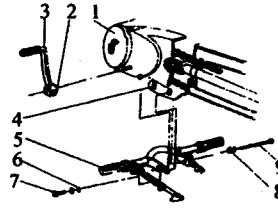
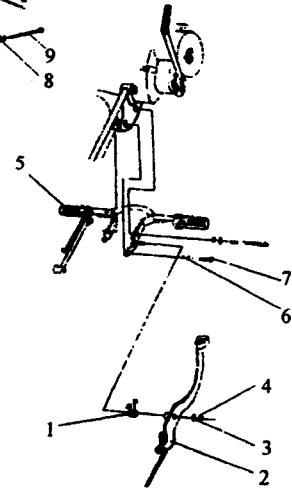

Fig. 3
Fig. 4
### Shift Pedal Installation(see Fig.3)
Footrest and Sidestant Installation(see Fig.3 and Fig.4)
(1) Remove washer 6 and bolt 7.
(2) Insert bolt 9 in series through washer 8, footrest and sidestand 5, frame 4 and engine 1 as shown in Fig. 3, fasten the nut on footrest and sidestand 5 with a torque of 23-26 N.m. Install footrest and sidestand 5 onto frame 4 with washer 6 and bolt 7 and tighten the bolt.
Brake Pedal Installation (see Fig.4)